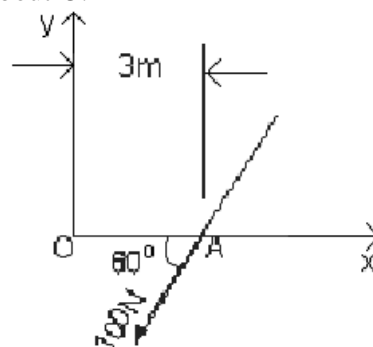

Fig.1
- b) A force of 100 N is acting at a point A as shown in figure 1. Determine the moments of this force about O. [7]